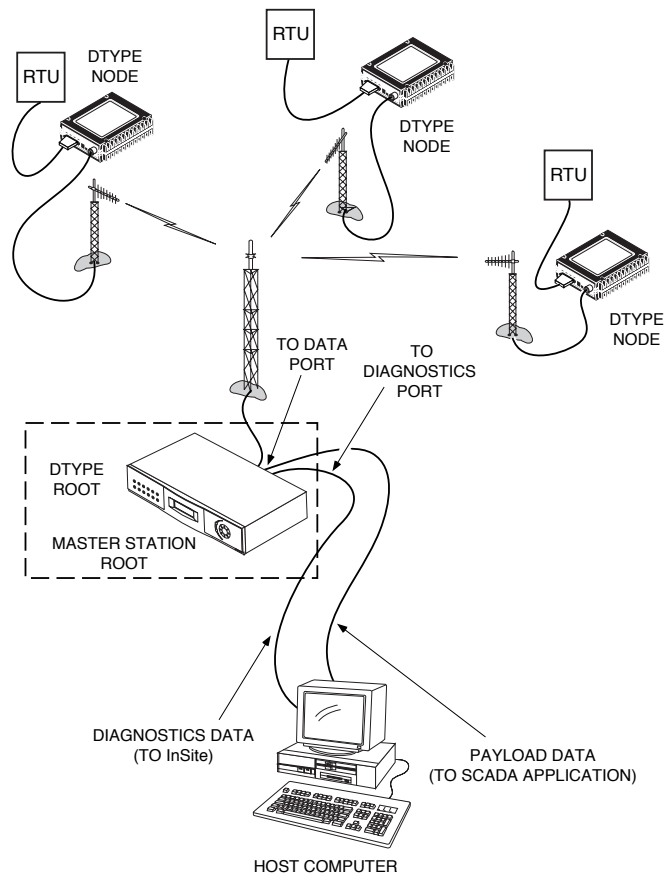

Figure 14. Network-Wide Remote Diagnostics Setup
Diagnostics data from a remote radio can be obtained by connecting a laptop or personal computer running MDS InSite diagnostics software to any radio in the network. Figure 14 shows an example of a setup for performing network-wide remote diagnostics.
6. Connect a PC on which MDS InSite software is installed to the root radio, or to one of the nodes, at the radio's diagnostic port. (This PC may be the PC being used to collect payload data, as shown in Figure 14.)